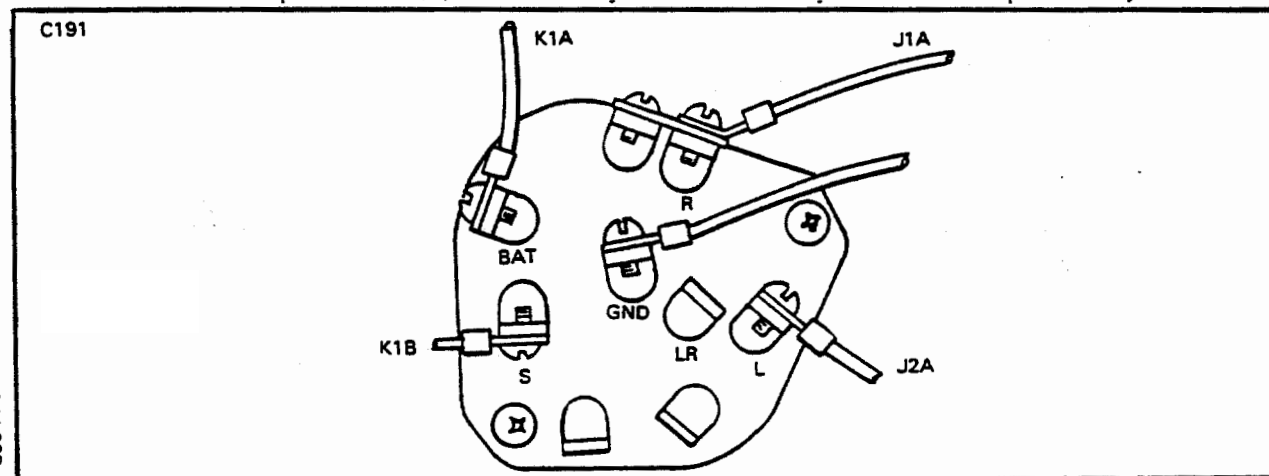

Figure 11-25C. Ignition Switch Wire Positions
11-87C. INSTALLATION OF IGNITION SWITCH (Refer to Figure 11-25C.)
- Attach wires to switch as shown in Figure 11-25C.